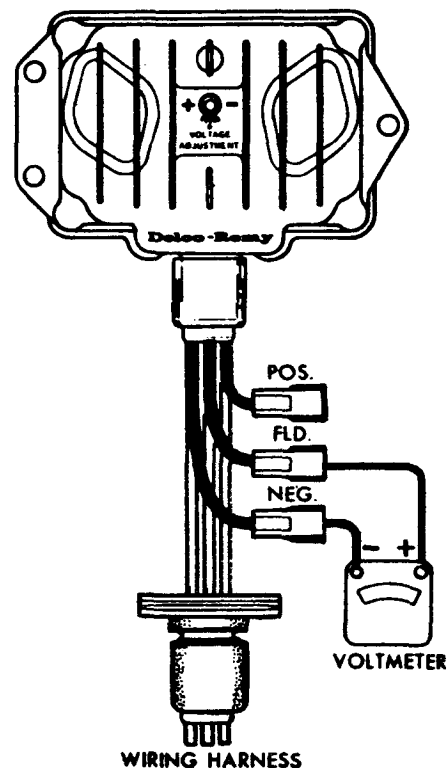

Figure 11—Voltmeter connections to test adapter.
1. Connect a voltmeter to the test adapter as shown in Figure 11.